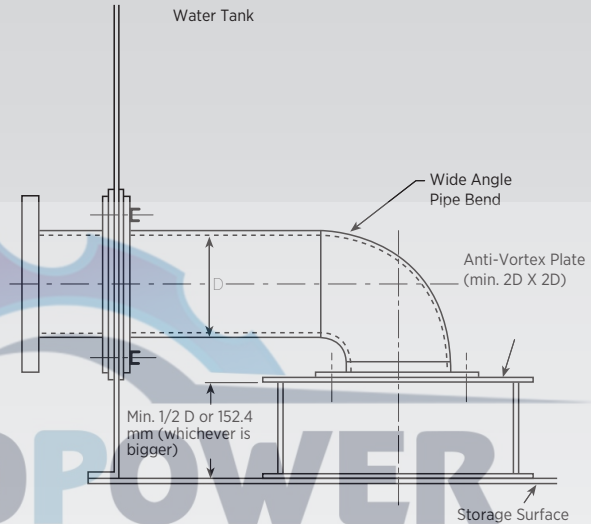

Figure 3: Vortex Plate Dimensions
- If the fire pumps directly suck water from the tank without a suction collector, a vortex plate should be placed. The dimensions of the vortex plate should be as follows. The dimensions of the vortex plate are given in Figure 3.